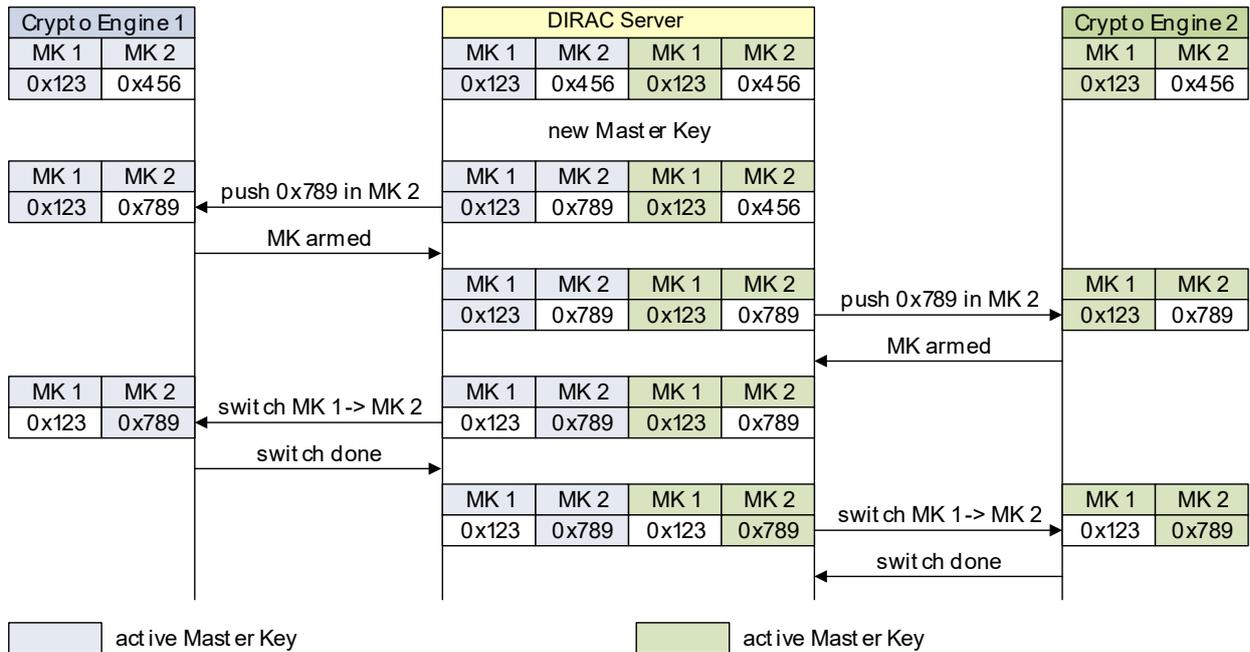

Figure 5: Master Key distribution and activation
- The MPLS Manager distributes the new Master Key to the Crypto Engines according to Figure 5.